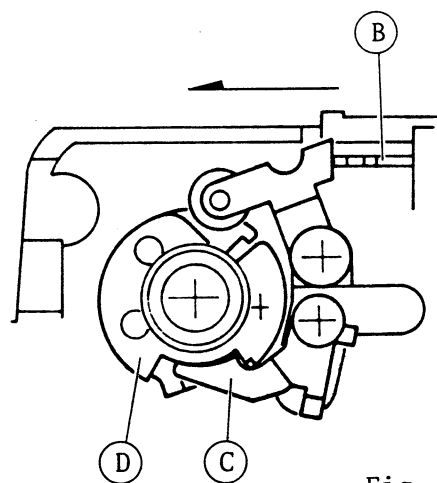

Fig. 16
- b. Pull the film advance lever out until further winding is stopped by the (C) winding safety arm.
- c. In the above condition, when the (B) release lever is pushed in direction of the arrow, the shutter should be released. (Fig. 16)